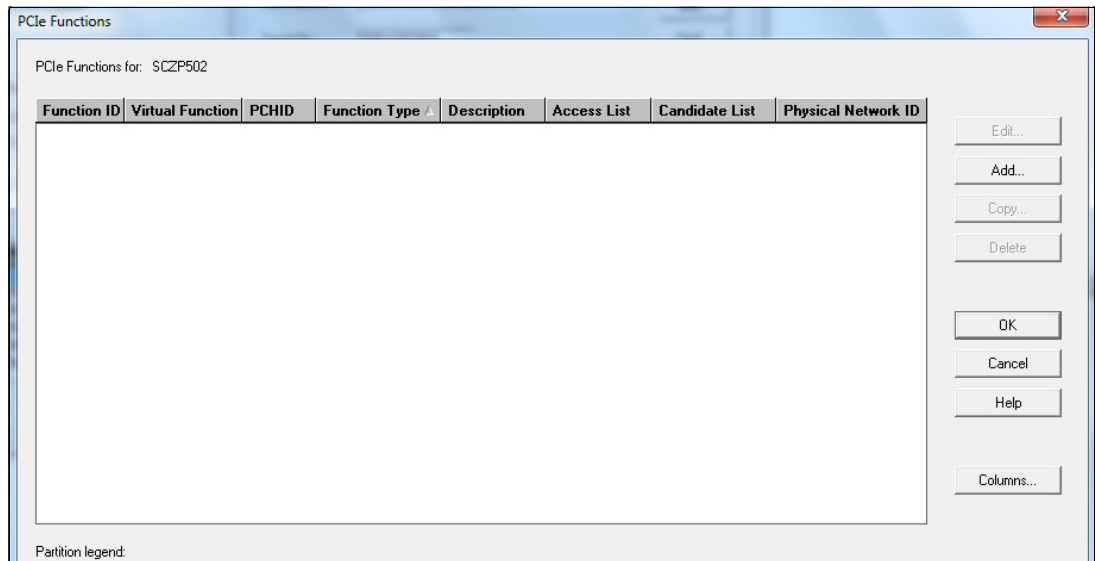

Figure 6-52 HCM - PCIe functions: summary list
4. HCM displays the PCIe Functions summary window (Figure 6-52). Click **Add**.